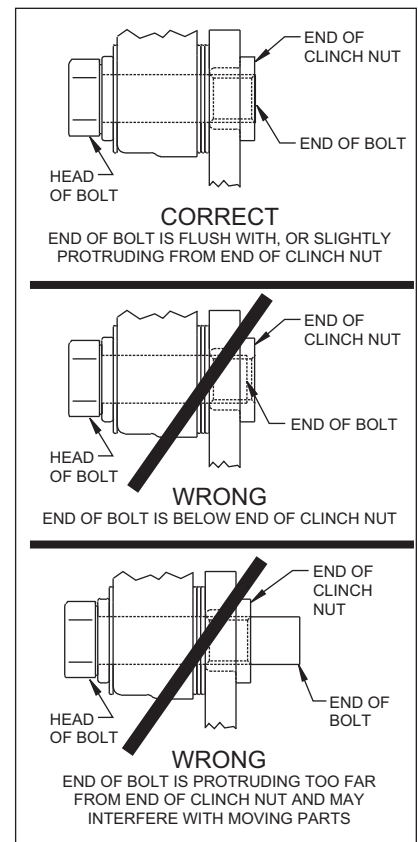

Figure 4.
- Pack the small outer bearing cone (15) with high temperature disc brake bearing grease and install into front of hub (8). Slide the hub/rotor assembly (8 and 12) with outer bearing cone (15) onto the spindle. Secure using spindle washer (16), stock adjusting nut and nut locking device. Adjust bearings per Original Equipment Manufacturer (OEM) specifications.
- Install the dust cap (17) onto the hub (8). Friction created by the o-ring (18) on the dust cap (17) keeps it from unscrewing. The O.D. of the existing spindle washer may be larger than the I.D. of the dust cap (17) not allowing it to seat against the hub face. Some grinding on the washer O.D. may be necessary to clear the I.D. of the dust cap (17).
- NOTE:** Please reference the caution statement at the beginning of the assembly instructions. Mount the caliper (19) onto the caliper bracket (1) using washers (20) and bolts (21). Finger tighten. View the rotor (12) through the top opening of the caliper (19). The rotor (12) should be aligned in the center of the caliper (19). If not, adjust the caliper (19) by using 0.032 inch thick shims (22) placed between the caliper mounting bracket (1) and the caliper (19). Finger tighten and recheck alignment. Add as many shim washers (22) as necessary to achieve the correct alignment. **NOTE:** The end of the bolt must be flush with or slightly protruding from the head of the clinch nut. See Figure 4. Place spare shims (22) between washer and caliper mounting ear to achieve the proper mounting fastener configuration. Always use the same amount of shims on both the top and bottom caliper mounting bolts (21). Apply red *Loctite*® 271 to bolt threads (21) and torque to 40 ft-lb.
- Install the disc brake pads (23) and secure using cotter pin (24). Repeat procedure for the other wheel.